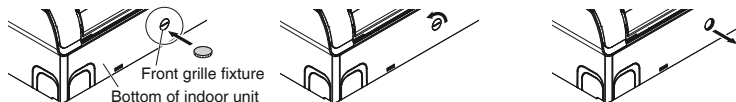

Fig.2
- 3) Remove screw covers (3 pcs.). (See Fig.2)
- 4) Remove the front grille fixing screws (6 screws). (See Fig.2)
- 5) Remove 3 front grille fixtures from the front grille. (See Fig.2)